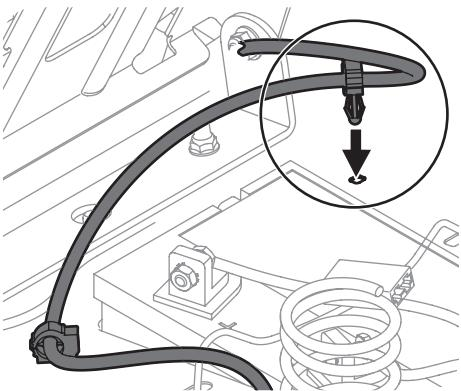

Figure 2-4
- Using the harness clip attached to the harness, secure the excess wire to the fender by snapping the harness clip in place as shown in Figure 2-4.